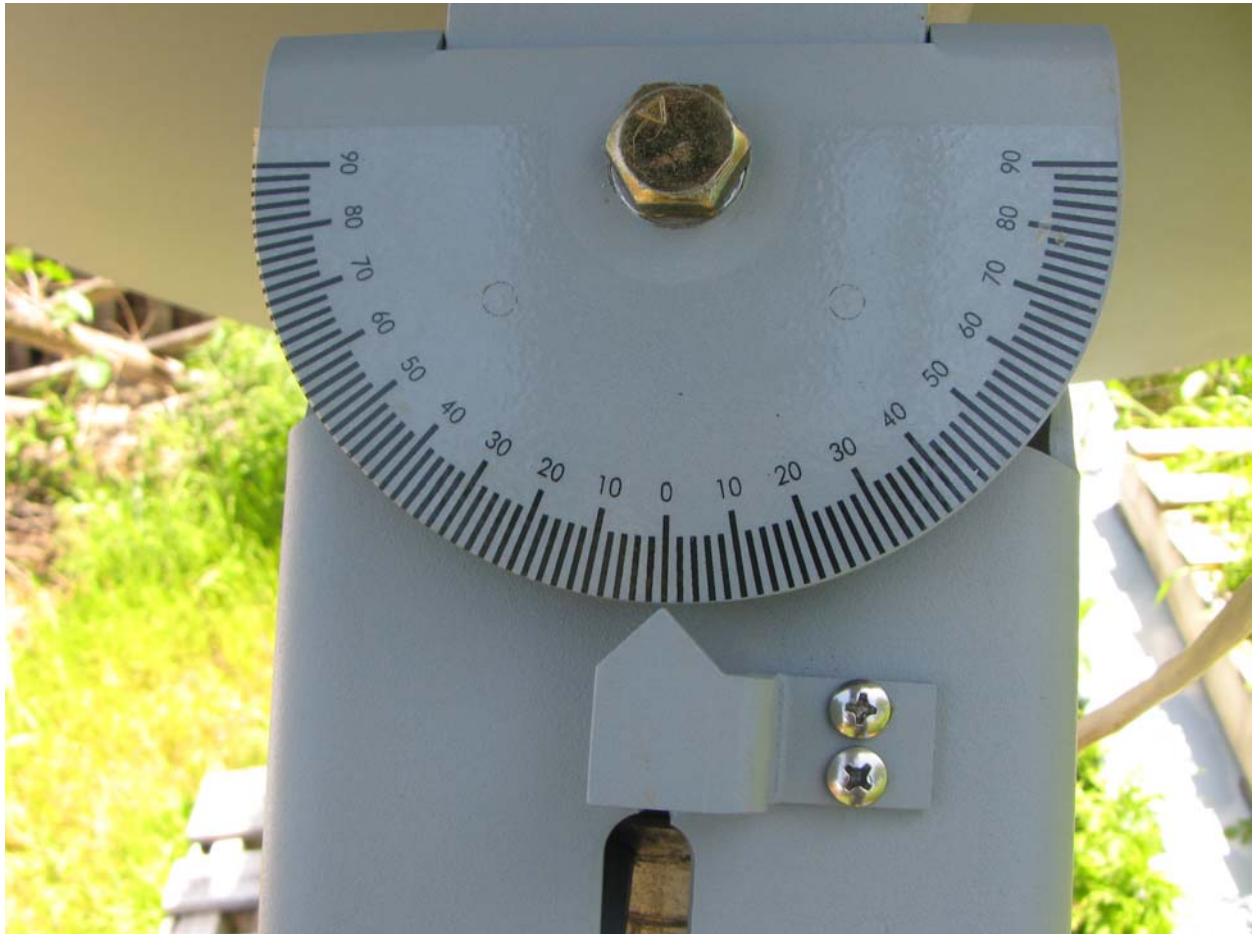

Figure 19 – Set Hour Angle to Zero Using Long Threaded Rod
8. Position the large nuts on the Mount Hour Angle adjustment threaded rod so that the Hour angle is zero. Use built-in protractor shown in Figure 19.